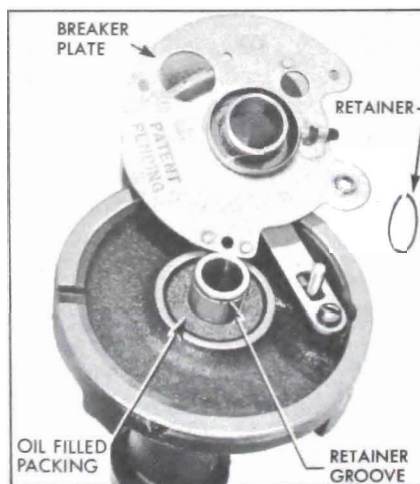

Figure 10-51—Installing Breaker Plate and Retainer
2. Install felt washer over upper bushing and apply a few drops of light oil. Then place breaker plate over upper bushing and vacuum advance link. Install retainer on upper bushing. See Figure 10-51.